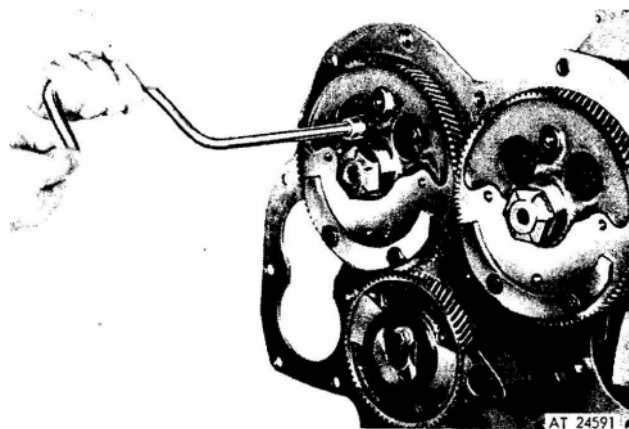

Figure 2. Removing or installing thrust washer retaining bolts.
11. Remove the two thrust washer retaining bolts securing the camshaft or balance shaft thrust washer to the cylinder block, by inserting a socket through a hole in the web of the gear as shown in figure 2.